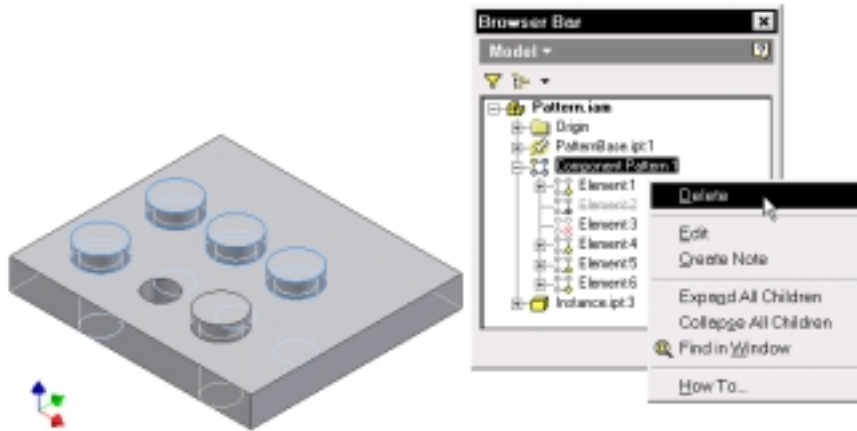

Figure 3-43
23. With reference to Figure 3-43, select the assembly pattern from the browser, right-click, and select Delete.